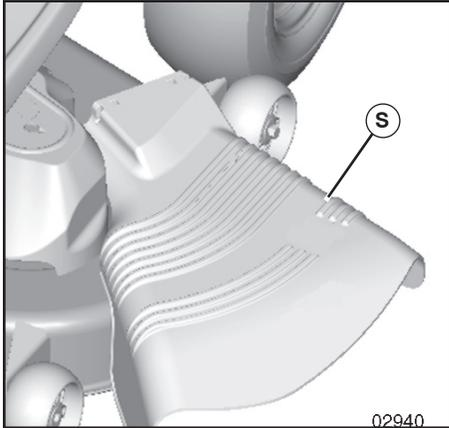

FIG. 10
**CAUTION: Do not operate the mower without either the entire grass catcher, on mowers so equipped, or the deflector shield (S) in place (See Fig. 10)**